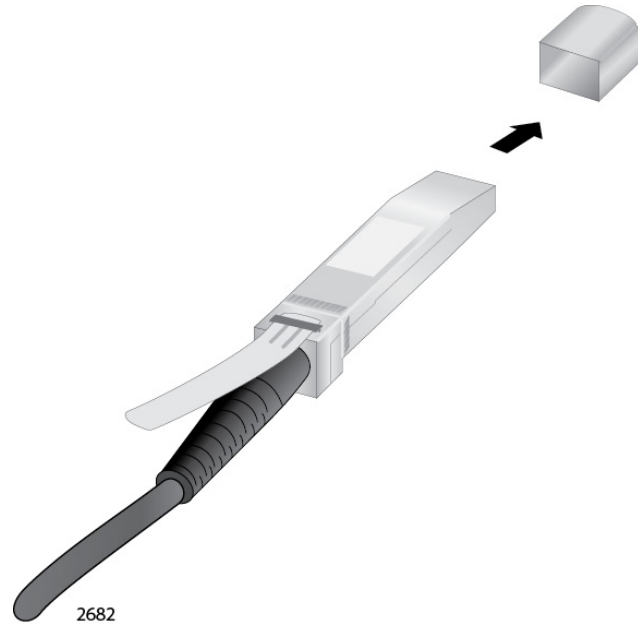

Figure 50. Removing the Dust Cover from the AT-StackXS/1.0 Transceiver
3. Remove the dust cap from one end of the transceiver, as shown in Figure 50 on page 95.